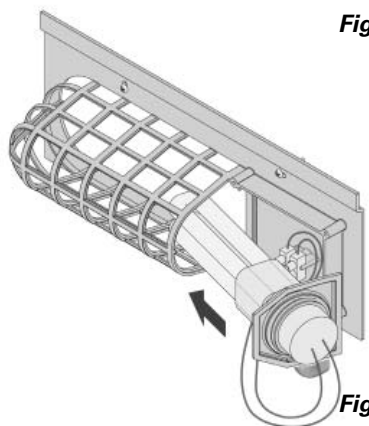

Fig.3
6. Insert the lamp in the protective cage, putting the bulb holder into place (fig. 3).